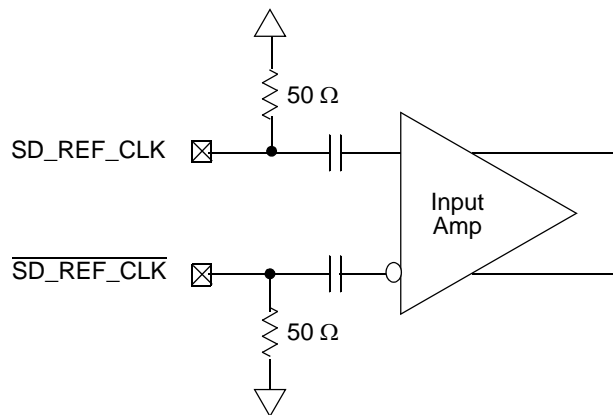

Figure 39. Receiver of SerDes Reference Clocks
Figure 39 shows a receiver reference diagram of the SerDes reference clocks.
- The SD\_REF\_CLK and  $\overline{\text{SD\_REF\_CLK}}$  are internally AC-coupled differential inputs as shown in Figure 39. Each differential clock input (SD\_REF\_CLK or  $\overline{\text{SD\_REF\_CLK}}$ ) has a 50- $\Omega$  termination to XCOREVSS followed by on-chip AC-coupling.